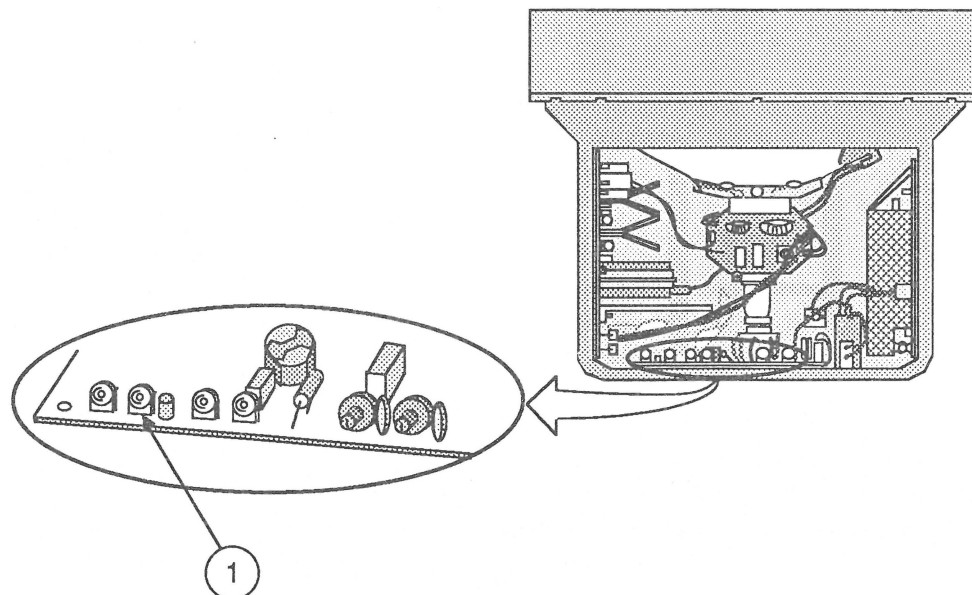

FIGURE 17
6. Using the plastic alignment tool, adjust the BRIGHTNESS RANGE control (Figure 17, #1) until the screen luminance measures at the low end of the "10" (31 ft.-lamberts) on the light meter scale.